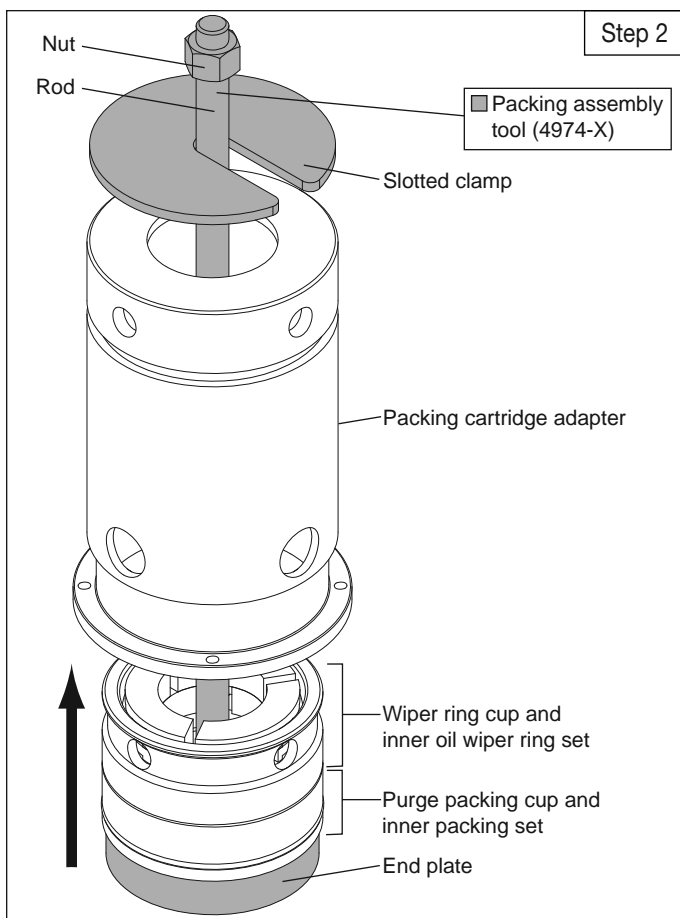

Figure 4.6D : Packing assembly
- c. Orient the packing cartridge adapter so that the open end (cylinder side) faces down. Being careful not to dislodge the inner packing set previously placed on the end plate of the tool, position the packing cartridge adapter over the inner packing set and end plate of the tool so that the rod of the tool extends through the packing cartridge adapter. Place the slotted clamp above the packing cartridge adapter as shown in Figure 4.6D.